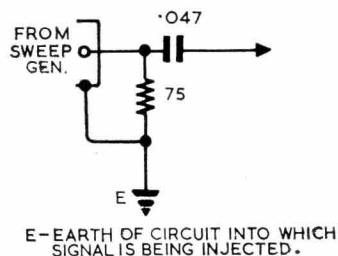

Fig. 2.
These instruments should be interconnected as described in the instructions supplied with the sweep generator. This generator should be terminated with a resistor equal to the output impedance, and connected to the receiver as shown in Fig. 2.
- (a) Using the termination network as shown in Fig. 2, connect sweep output between pin 3 of V4 and earth.